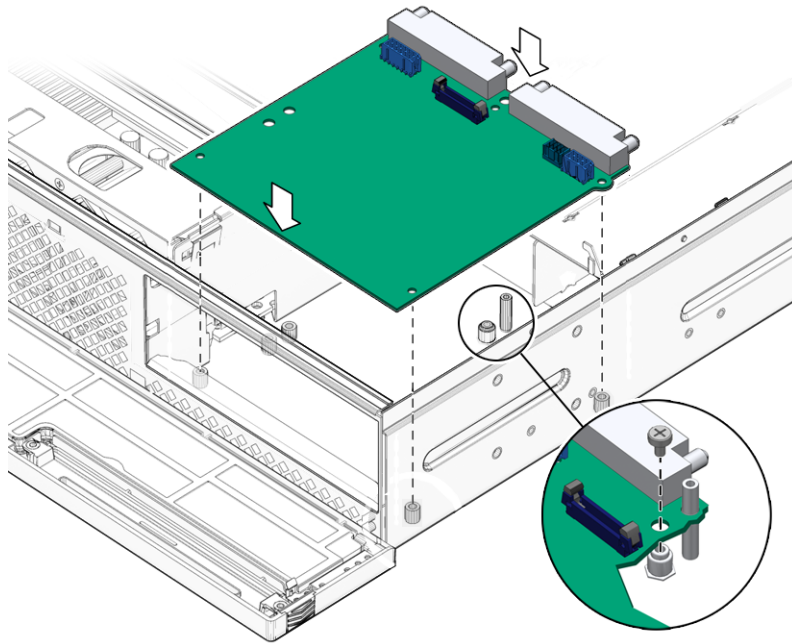

FIGURE 3-75 Lowering the Power Board Into the Chassis
2. Lower the power board into the chassis, aligning the board’s holes with the standoffs in the chassis (FIGURE 3-75).